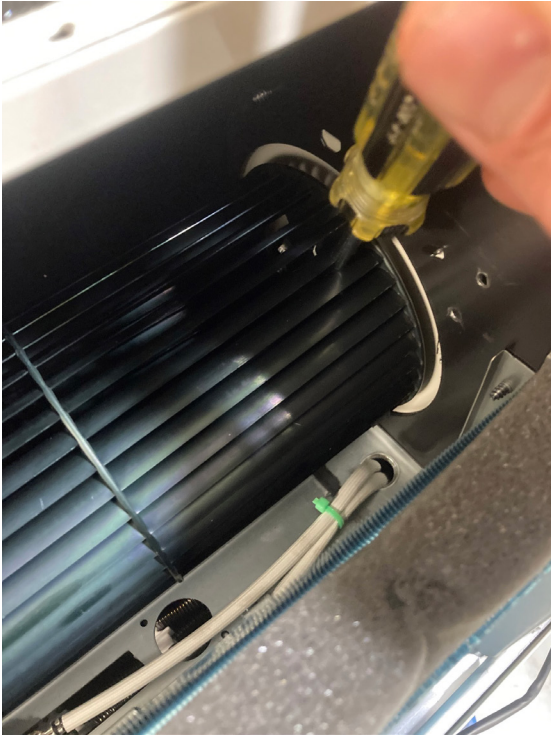

Figure 517
7. Loosen blower wheel set screw through slot as shown, and slide blower wheel out. See Figure 517.